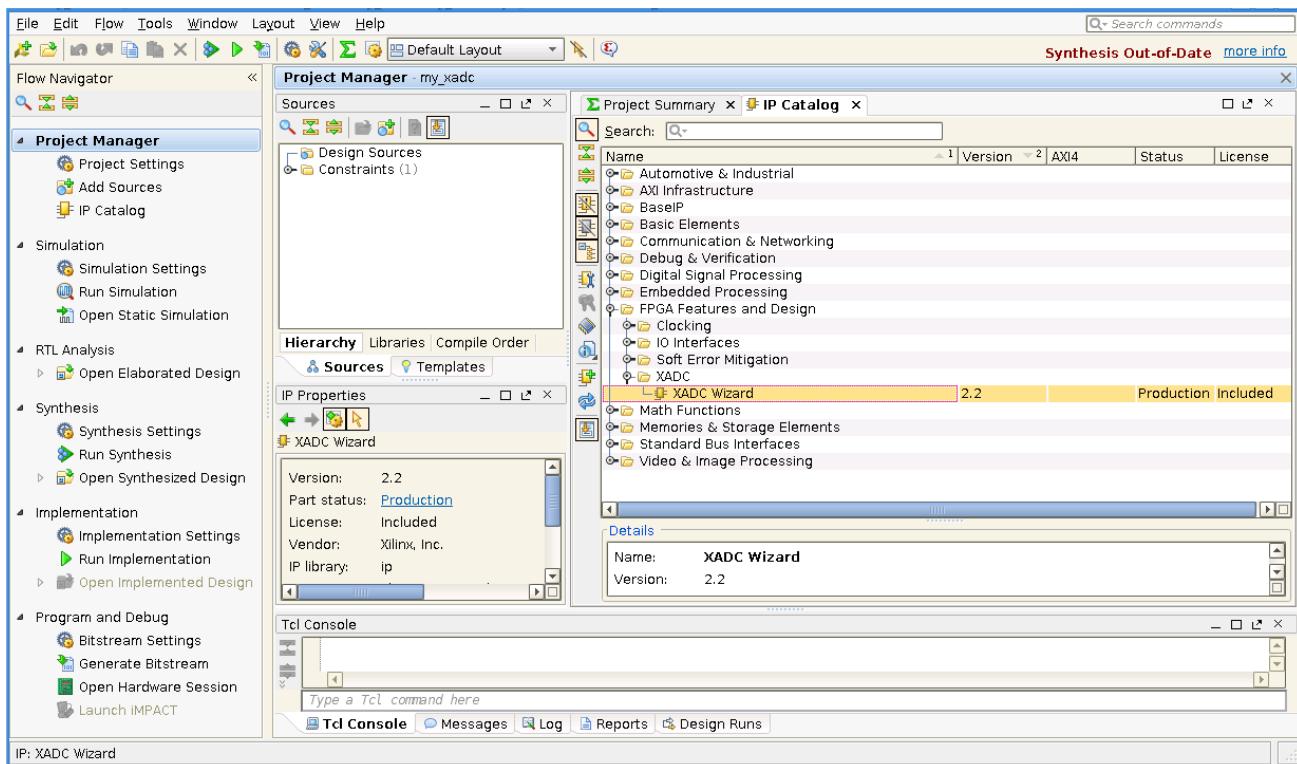

Figure 2-1: Vivado IP Catalog
2. After creating a new 7 series family project or opening an existing one, the IP catalog appears at the right side of the window, as shown in Figure 2-1.